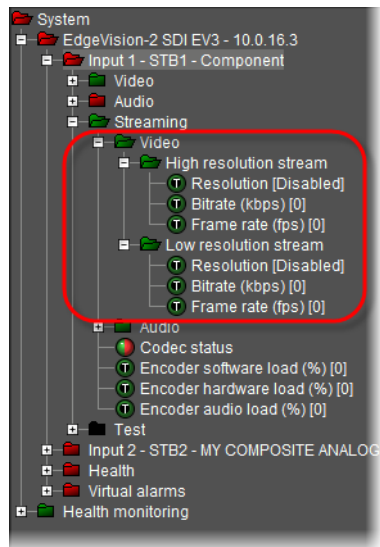

Figure 3-6 EdgeVision Streaming alarms: Video-related
--- Video-related alarms: High resolution stream (see Figure 3-6 , on page 34) ---
--- Video-related alarms: Low resolution stream (see Figure 3-6 , on page 34) ---